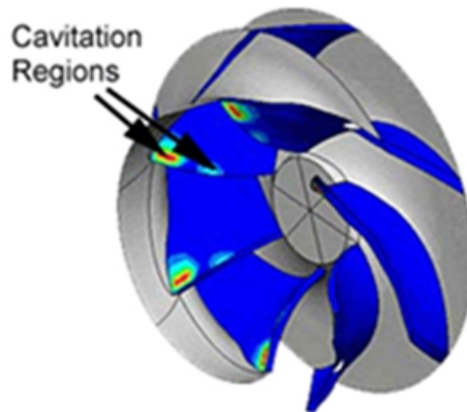

Figure 11. Low Pressure Regions
- A. When increased discharge demand exceeds the intake, bubbles form in the low pressure region (eye) of the impeller. See Figure 11.